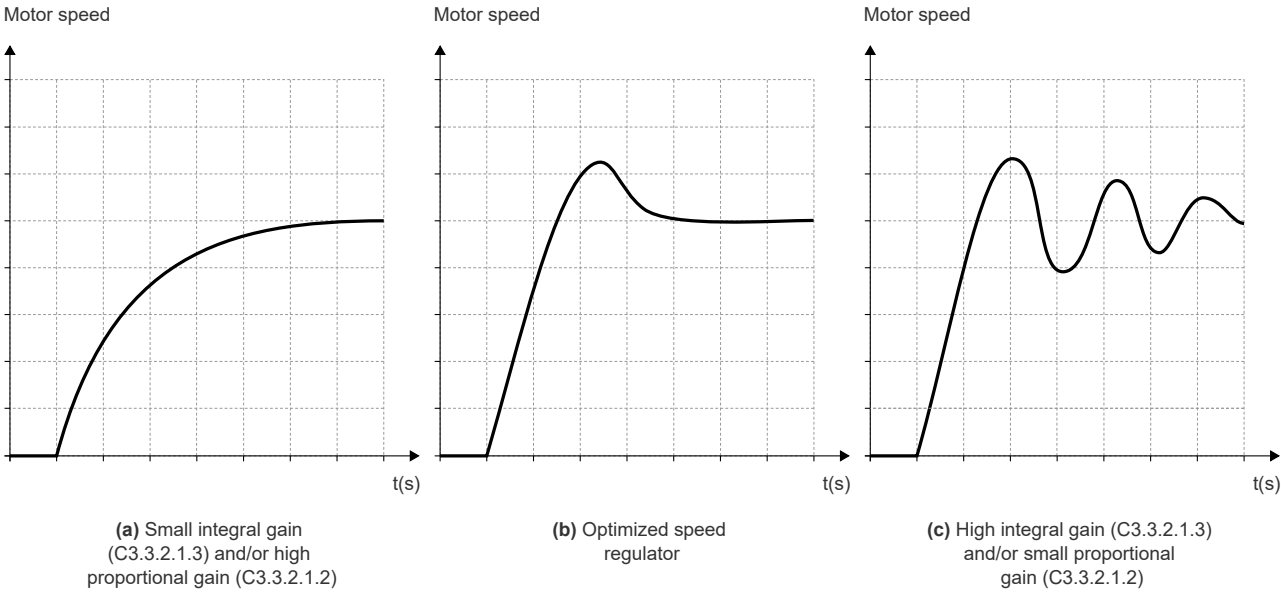

Figure 9.11: (a), (b) and (c) - Types of speed regulator response
6. Check among the options in Figure 9.11 which waveform best represents the read signal.
7. Set C3.3.2.2.1 and C3.3.2.2.2 according to the type of response shown in Figure 9.11.